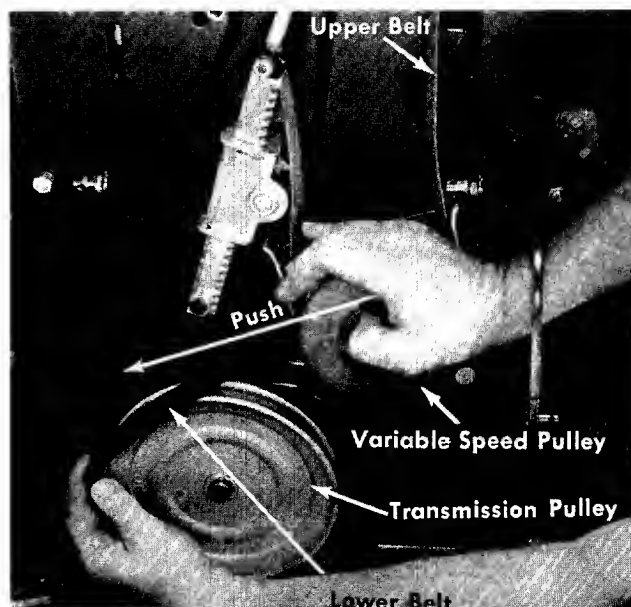

FIGURE 31.
Step 8. Remove the engine belt guard by removing the two front engine mounting bolts. See figure 31.
Step 10. While pushing the variable speed pulley towards the center of the rider, remove the lower belt from the transmission pulley. See figure 31.